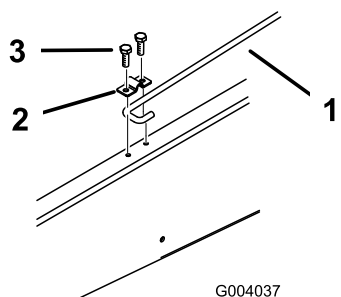

Figure 13
6. Loosen the bolt securing the prop rod clip to the frame until you can slide the J-hook end of the prop rod under the clip (Figure 13).
7. Tighten the bolt and secure the other side of the clip with a new bolt (5/16 x 3/4 inch) (Figure 13).